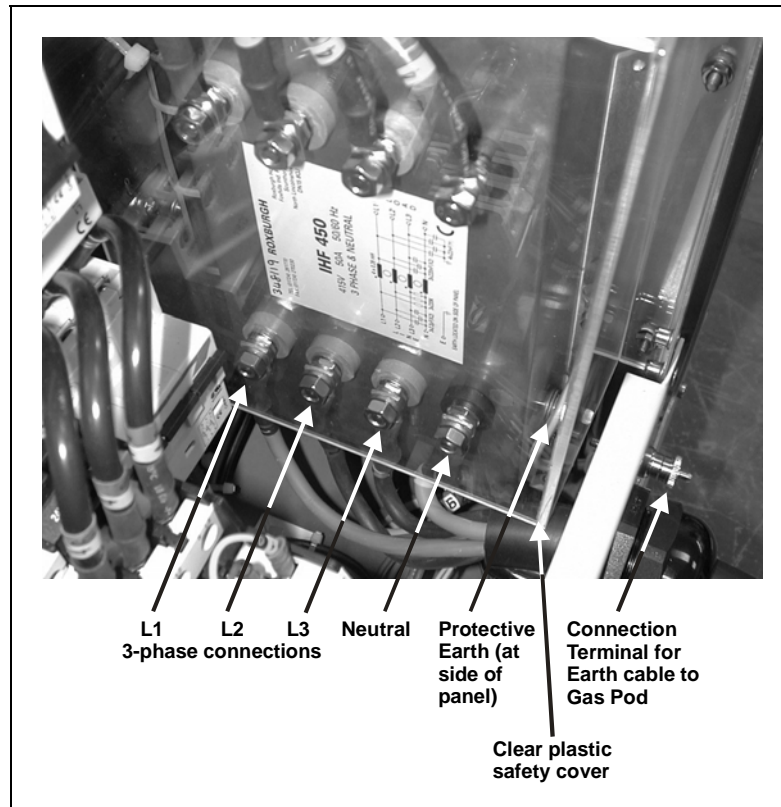

Fig 4.1: 3-phase supply cable connections at the power box
- 4) Connect the 3-phase supply cable wires as shown in Fig 4.1.